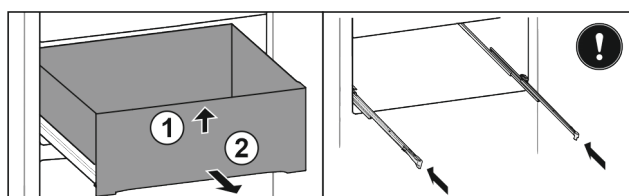

Fig. 35*
- ▶ Lift up the drawer at the front Fig. 35 (1).
- ▶ Take out to the front Fig. 35 (2).